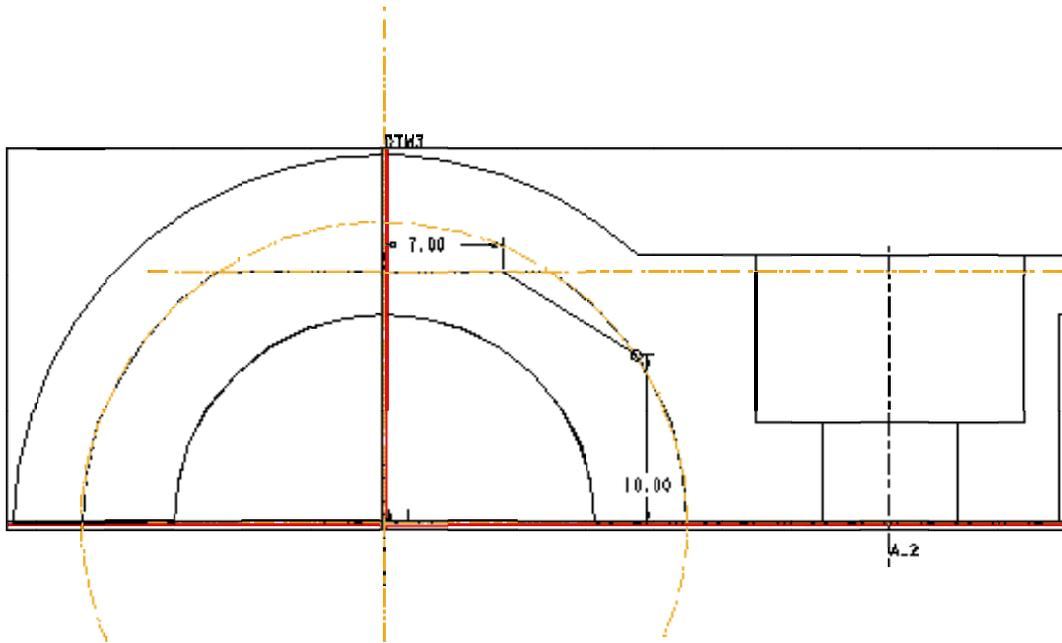

Figure 12: Sketch showing the simple definition required for a rib
6. Sketch a single line to represent the diagonal edge of the web and dimension as shown in Figure 12,  $7$  horizontal,  $10$  vertical.